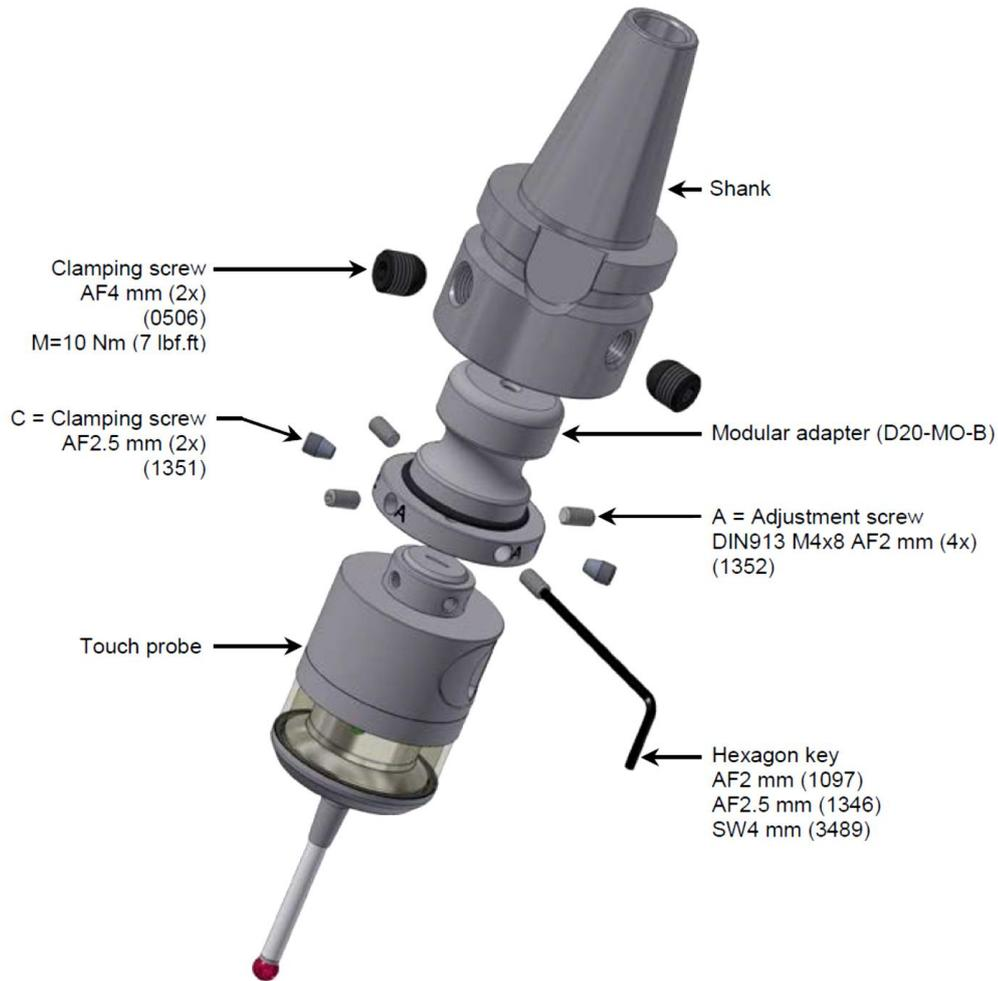

Figure 8 Mounting/dismounting the shank
- ☞ Remove all **A** and **C** screws from the modular adapter (refer to Figure 8).
- ☞ Insert the clamping screws and tighten to the torque specified in Figure 8.